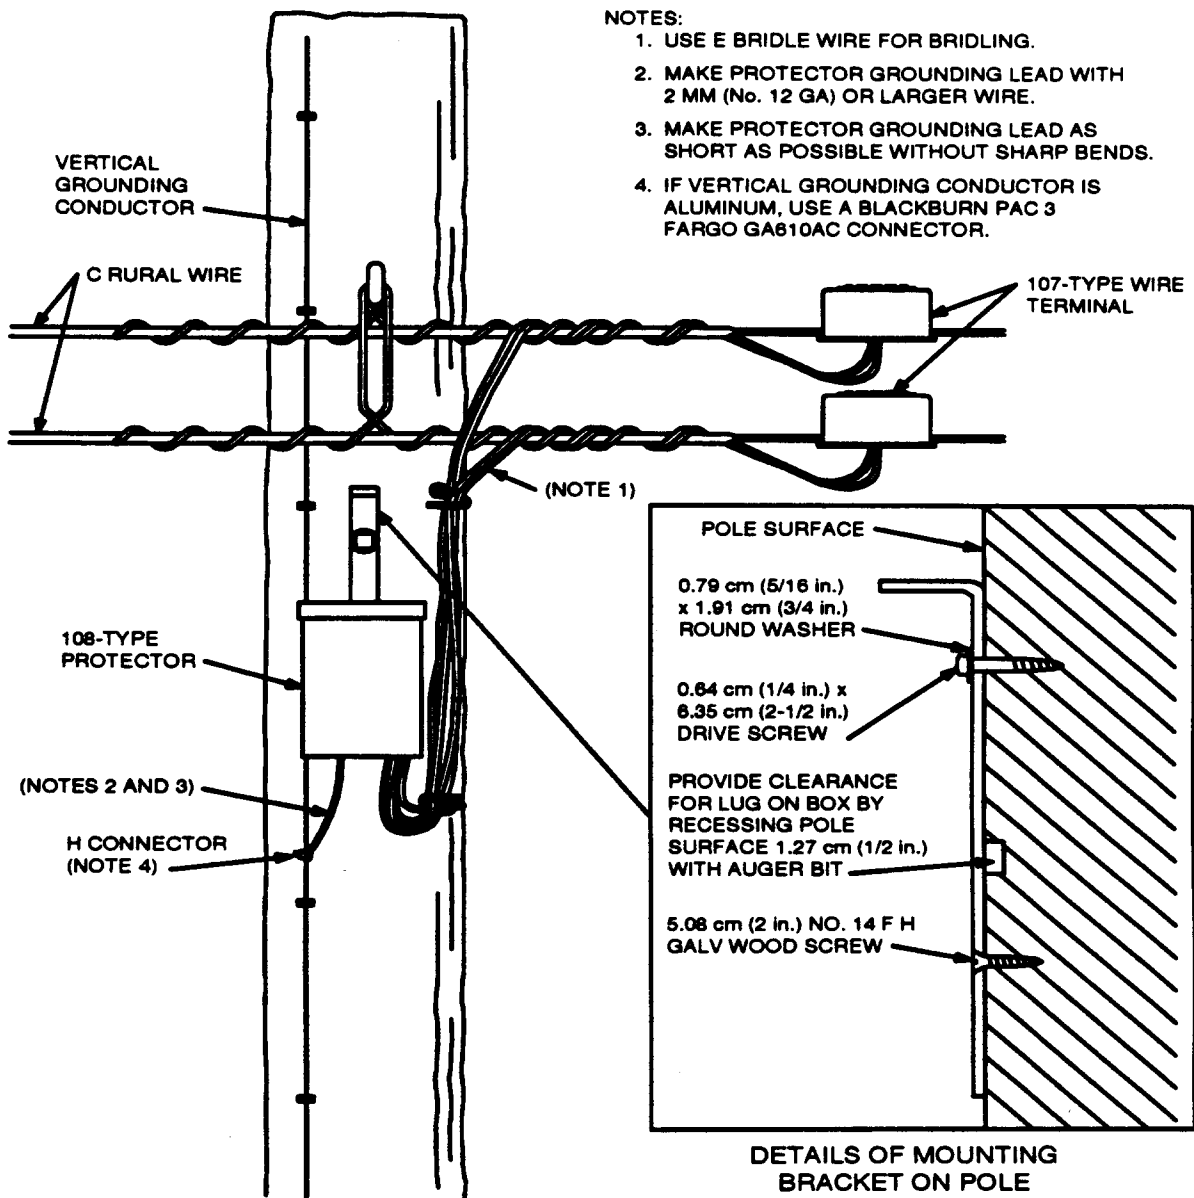

Figure 3. 104-Type Protector Mounted on C Rural Wire
- (1) Open the cover (paragraph 2.04).
- (2) Remove the round-head machine screw located below the protector mounting unit inside the housing.
- (3) Raise the housing a short distance, thus releasing the knob in the back of the housing from the keyhole slot in the mounting bracket.
**4.02** The method of mounting a 104-type protector and wiring it to C rural wire is shown in Figure 3. AT&T 462-525-150 describes the method of mounting and wiring the 107-type wire terminal. Use E bridle wire for making the connections to wire terminals and grounding conductors. Attachment to the grounding conductor is covered in Part 3.